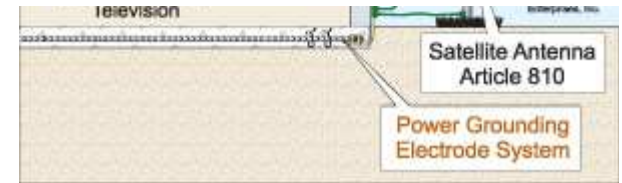

Fig. 2. Coaxial cables that connect antennas to equipment must comply with Art. 820.
Install coaxial cables per Art. 820 [810.3], if they connect antennas to equipment. Coax cable beyond the point of entry falls under Art. 820 [810.4] (**Fig. 2**). You will find the grounding requirements for antenna cables in 810.20(C) and 810.21.